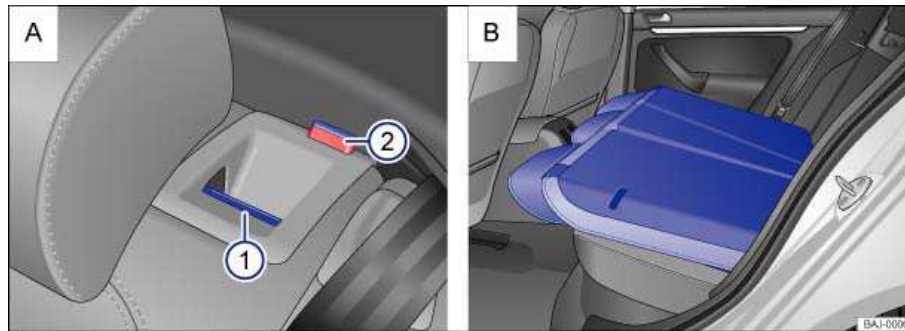

Fig. 88 A: Rear seat bench: Release button 1 and red mark 2. B: Seat backrest folded forward.
- Pull the release button ⇒ fig. 88 \(1\) forward while folding the rear seat backrest forward.